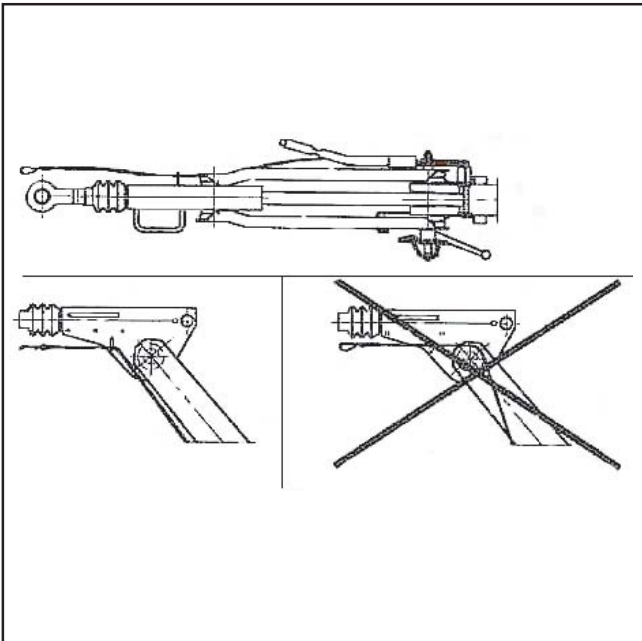
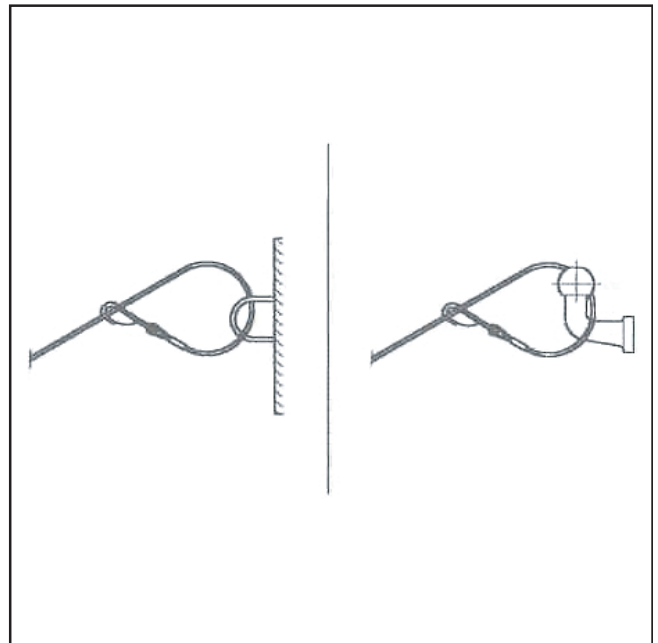

FIG.06
FIG.07
- Introduce the pull cable in the appropriate cable guide eyelet (FIG.06 and FIG.07).
Pay attention and check the cable is sufficiently long for journeys with bends. An excessively extended cable may accidentally activate the brake. House the cable around the towing hook's stem if without appropriate drive eyelet, and hook the snap hook on the cable itself (FIG.07). The cable activates the parking brake (emergency brake) should the trailer accidentally detach from the drive. The cable must be correctly introduced inside the cable guide ring to guarantee excellent emergency brake operation.